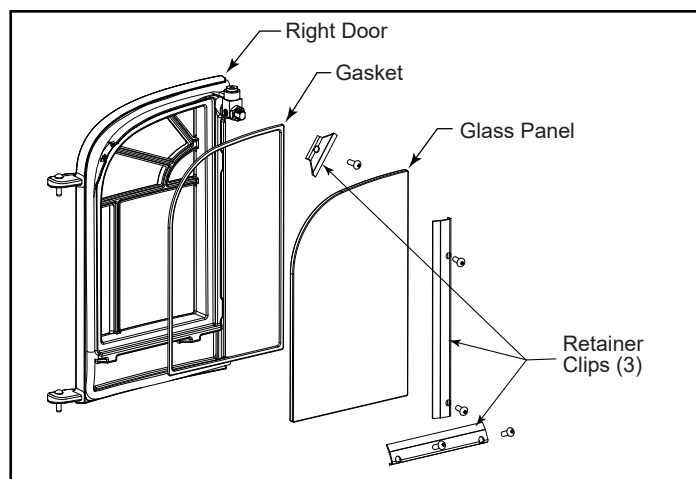

Figure 3.1 - Exploded view of the glass assembly for the right door.
2. Secure the glass on both doors with the retainer clips. Tighten all screws. (Figure 3.1)